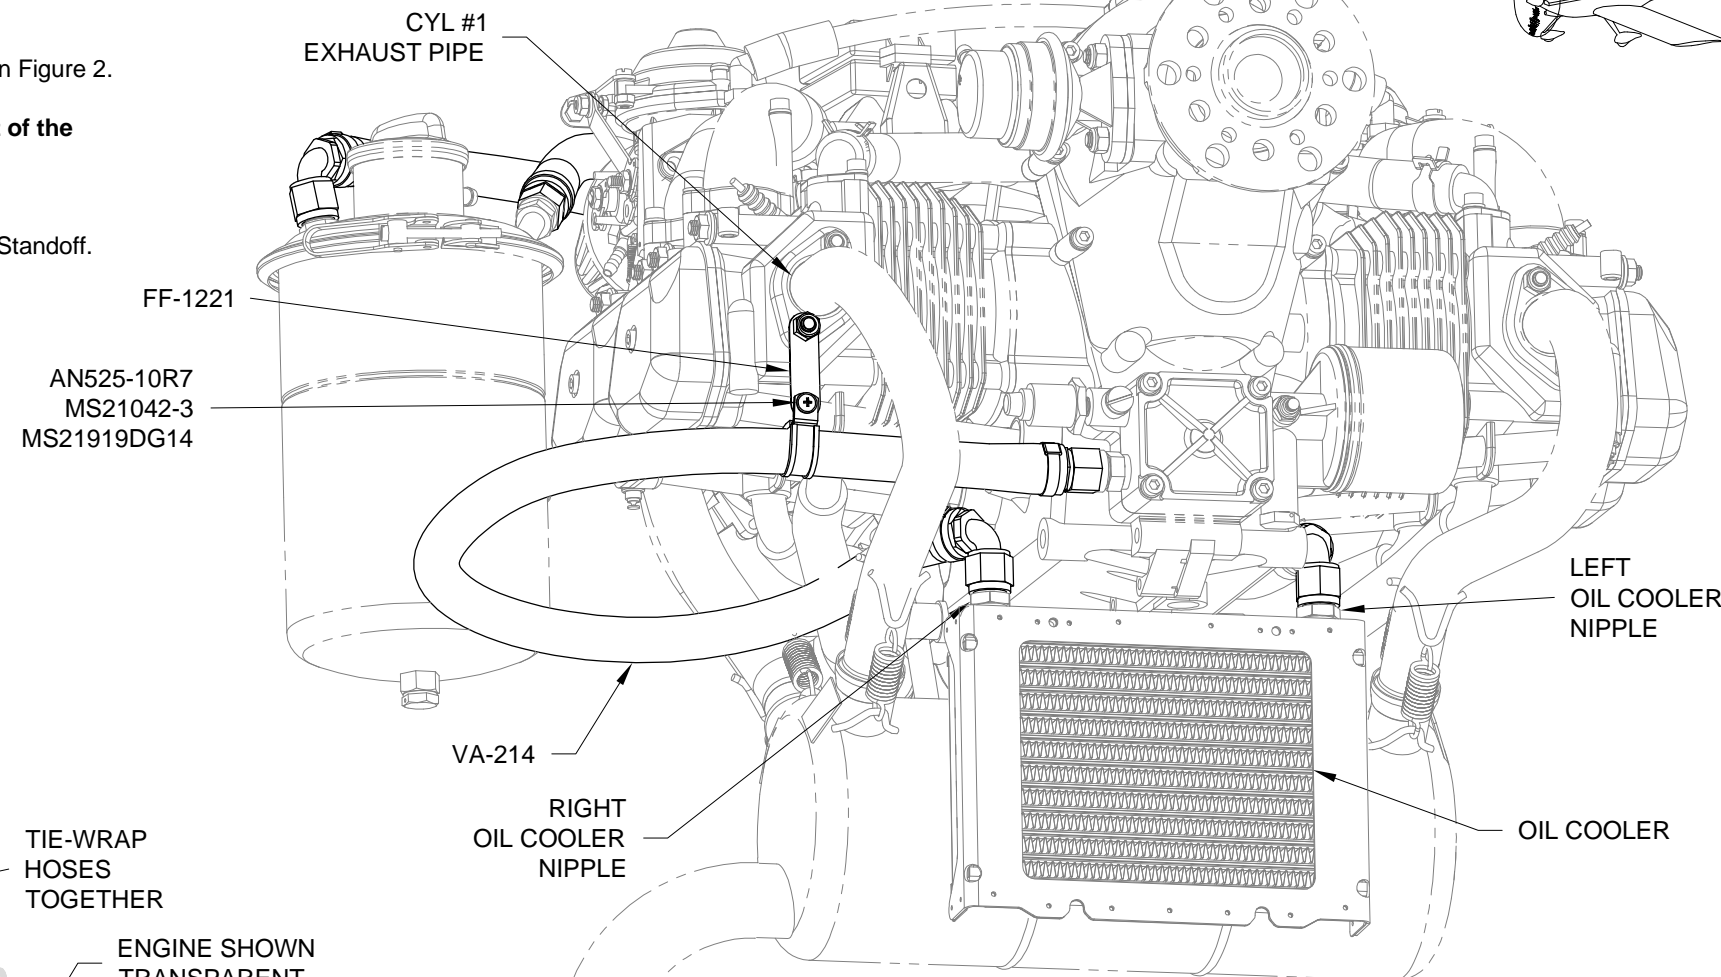

FIGURE 2: INSTALLING THE OIL HOSES FRONT VIEW
Step 2: Install the VA-213 Oil Supply Hose between the out port of the 956 426 Oil Tank Assembly and the Left Oil Cooler Nipple (finger tight) as shown in Figure 1 and Figure 2. Pass the hose behind the WD-1221 Engine Mount Standoff. See Figures on Page 49-18.
Step 3: Install the VA-214 Oil Cooler Hose between the Right Oil Cooler Nipple (finger tight) and the oil pump inlet nipple on the front of the engine as shown in Figure 1 and Figure 2.
Step 4: Attach a cushioned clamp to the FF-1221 Hose Bracket and around the VA-214 Oil Cooler Hose as shown in Figure 2.
Step 6: With both oil cooler hoses that attach to the oil cooler only finger tight, install the COWL 12 BOTTOM and drop the Oil Cooler Box Assembly into position on the two COWL 12 GUIDES (See Page 49-12, Figure 2). Remove the bottom cowl without disturbing the hose positions then tighten the hoses. Tie-Wrap the hoses together behind the engine in the location indicated in Figure 1 and Page 49-18, Figure 1.